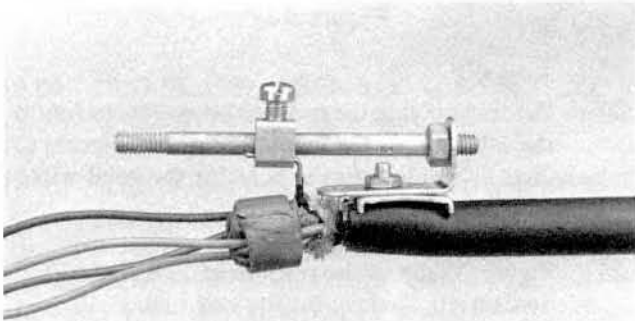

Figure 14
6.10 Remove the green mastic sealant from the package. Remove enough of the paper backing to roll the mastic tape into a solid plug approximately $\frac{1}{2}$ " in diameter and cut the tape. Spread the buffer tubes apart at the butt of the cable and insert the mastic sealant plug in between the buffer tubes approximately $\frac{3}{8}$ " from the butt of the cable. Position the buffer tubes around the sealant plug leaving a slight separation between the buffer tubes. Depress the buffer tubes into the sealant plug and apply one layer of green mastic sealant around the buffer tube bundle at the point where the plug was installed. Figure 14.